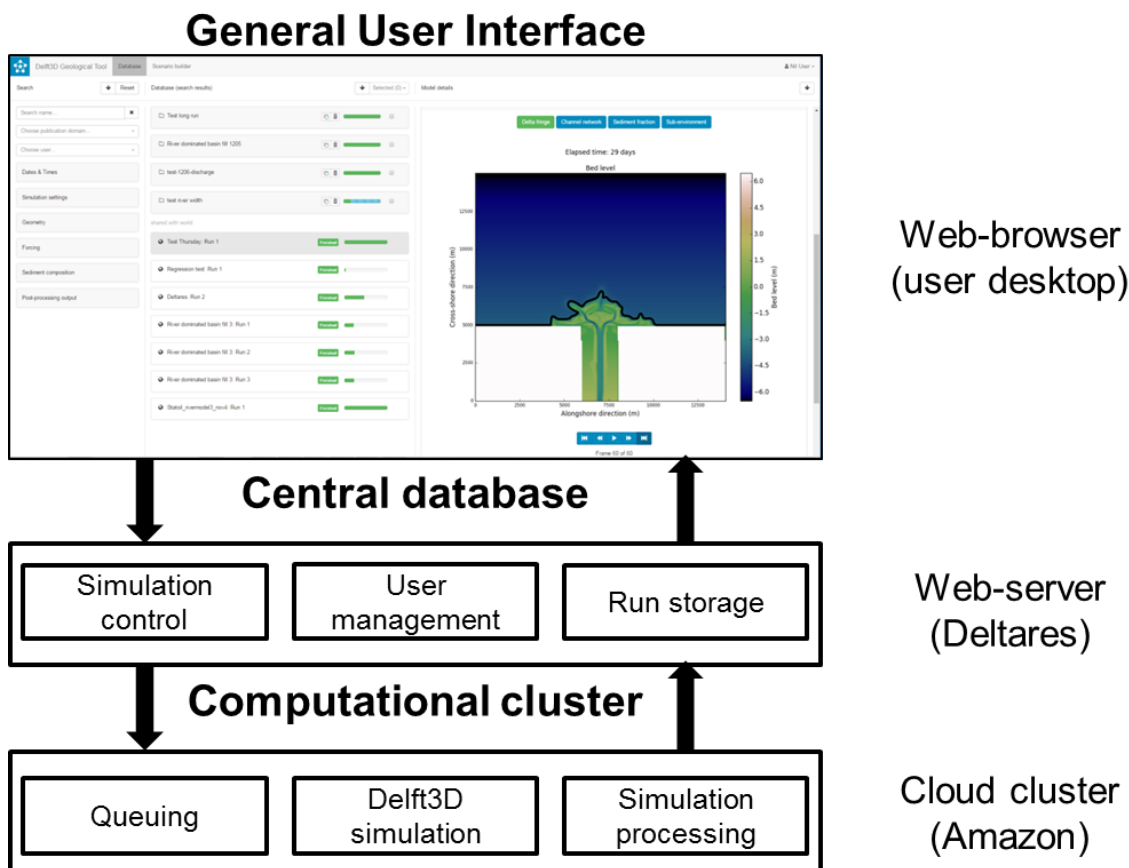

Figure 2.1 Schematic overview of Delft3D-GT version 1.0 and its components
Delft3D-GT version 1.0 consists of (1) a web-based Graphical User Interface (GUI), (2) central database and (3) cloud-based computational cluster as schematically depicted in Figure 2.1. Through the GUI the user can create, control, inspect and export Delft3D simulations for geological applications. Behind the screens the runs that are created in the GUI are stored in a central database and put under version control. This web-based database is the central hub in Delft3D-GT that controls the Delft3D simulations (e.g. create, start, stop, process, delete), user management and storage of run information (e.g. input, output and meta-information). For simulation performance and data storage reasons the actual simulations are executed on a cloud-based cluster. This cluster controls the queuing, execution and processing of the Delft3D simulations. The remainder of this user manual focuses on the GUI.